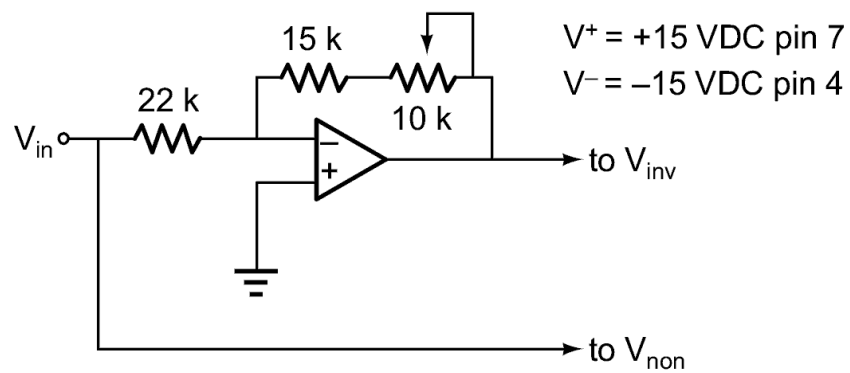

Figure 2
11. Assemble the circuit of Figure 2. Adjust the potentiometer to set the voltage gain to precisely -1 . This circuit is a simple phase-splitter and is used to generate a differential input signal.
12. Connect the circuit of Figure 2 to the original circuit as shown.